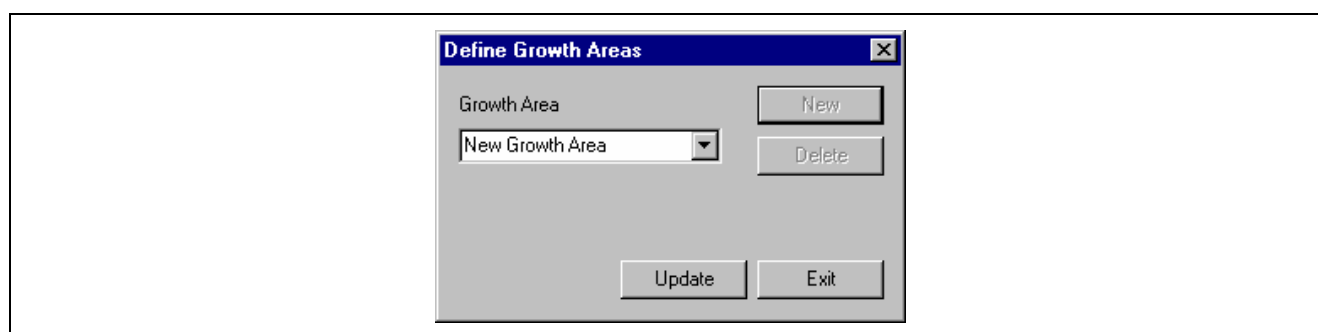

Fig. 6-64 Define Growth Areas, Screen 1
Select Configure again and on the pull-down menu select Growth Areas (Fig. 6-64).
21.2 Fig. 6-66 will allow you to return to the window of Fig. 6-64 by selecting OK.
21.3 Select OK to return to the window of Fig. 6-64.
21.5 Select OK to return to the Define Growth Area window of Fig. 6-64.